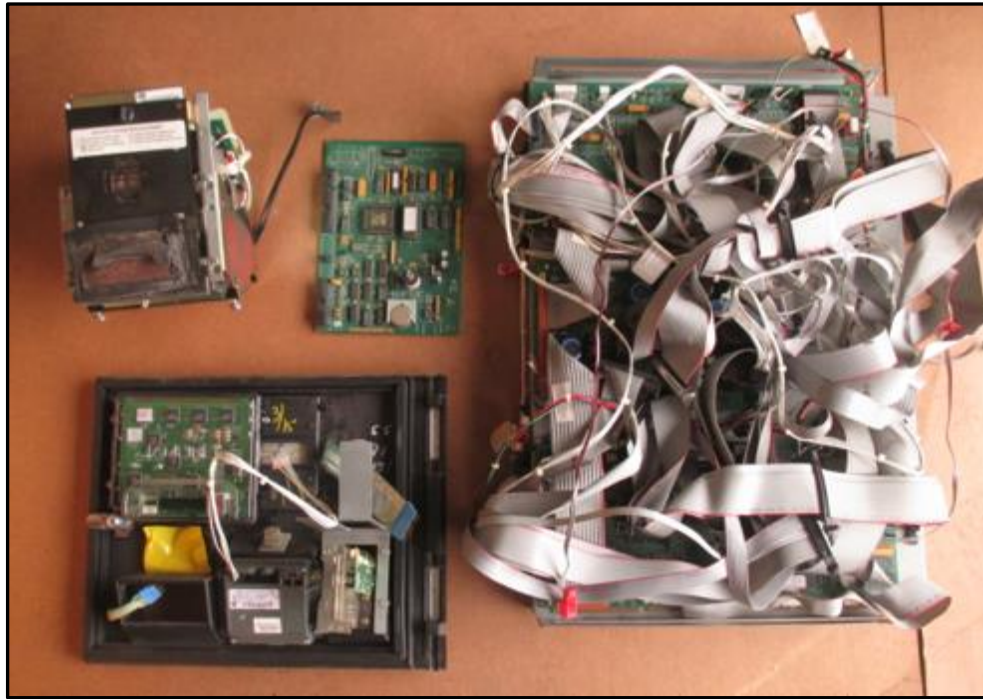

Fig. 1.22 – Removed components from dispenser that can be discarded
21. With the exception of the main door retaining bolts (removed in step 4), all of the removed components will not be used again and can be discarded. (Fig. 1.22)